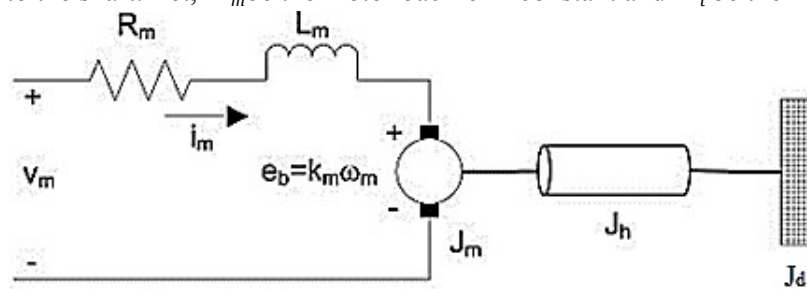

Figure 1: DC Motor with metallic disc connected through a hub
- a) Derive the set of equations describing DC motor setup available in lab as depicted in Figure 1. This is an armature controlled DC motor, where R_m and L_m are resistance and self-inductance of armature coil inside and J_m , J_h and J_d are rotor moment of inertia, moment of inertia of hub (the silver colored metal disc used to mount the red load disc) and disc moment of inertia respectively. Assuming negligible damping, find the equations, which relate the voltage, applied to the motor to the resultant speed of the disc connected to the shaft. Let, K_m be the motor back-emf constant and K_t be the motor torque constant.
The first methodology is where we know the exact construction of our system entirely (e.g. Figure 1), including all the system parameters, and use physical principles (e.g. KCL, KVL, Newton's laws, etc.) to build our model. This is called "Modeling by First Principles".
The DC motor setups in the lab (shown in Figure 2) are direct-drive rotary servo systems. The DC motor shaft is connected to the load hub. The hub is a metal disc (silver colored) used to mount the load disc (red) and has a moment of inertia of J_h . A disc load is attached to the output shaft with a moment of inertia of J_d . J_m is the inertia of the rotor. The motor armature circuit schematic of the same is shown in Figure 1. The electrical and mechanical parameters for this motor setup can be found in the respective user manuals provided on Canvas LMS.